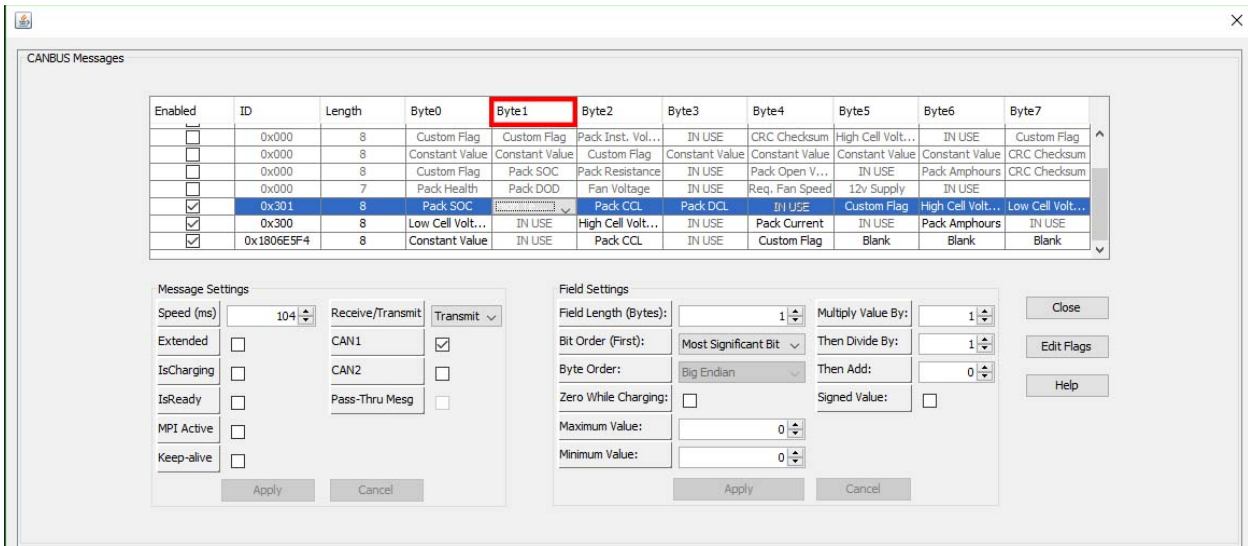
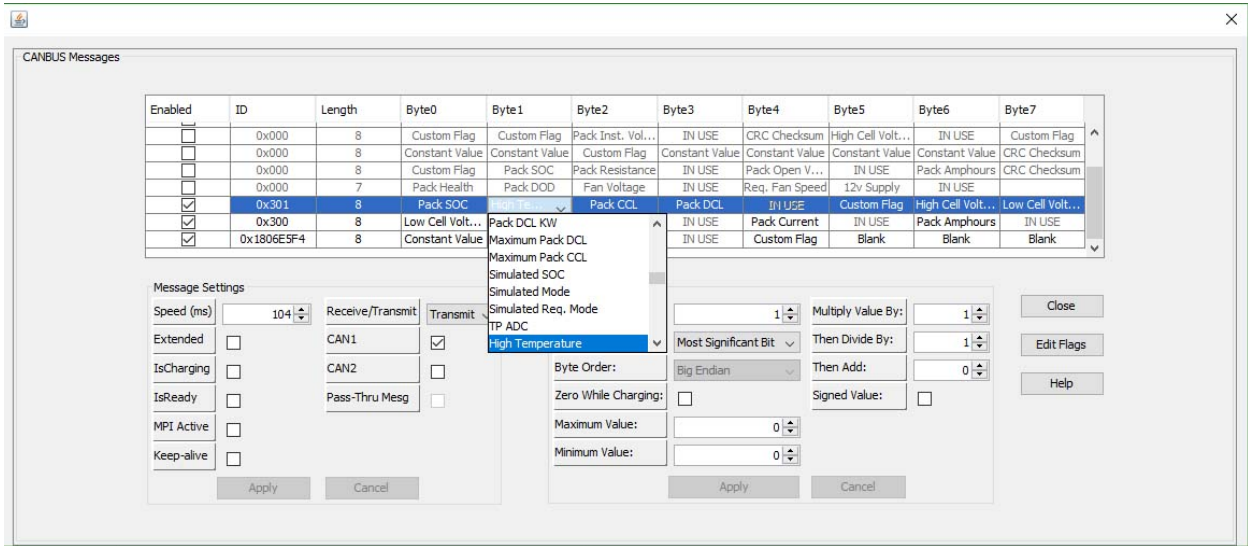

Fig. 21
Fig. 22
5. The following is the settings for **High Temperature**. The Byte used is Byte1 in message 0x301. In the dropdown menu for Byte1 make sure that **High Temperature** is selected. (Fig. 21 Fig. 22)